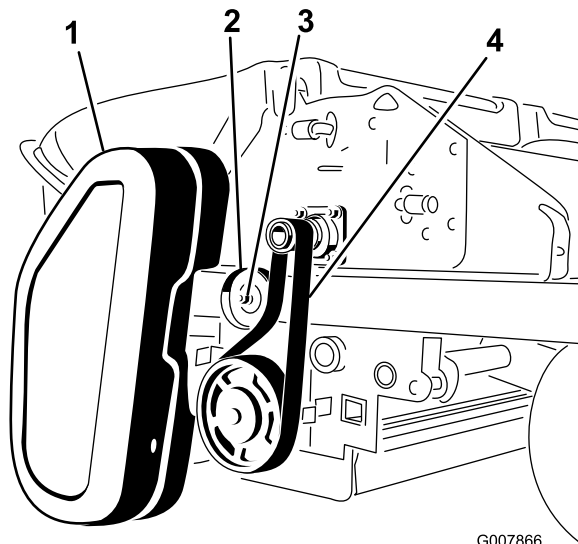

Figure 57
1. Remove the belt cover (Figure 57).
2. Loosen the nut on the idler pulley (Figure 57).
3. Slide the belt off the chopper shaft and brush pulley (Figure 57).